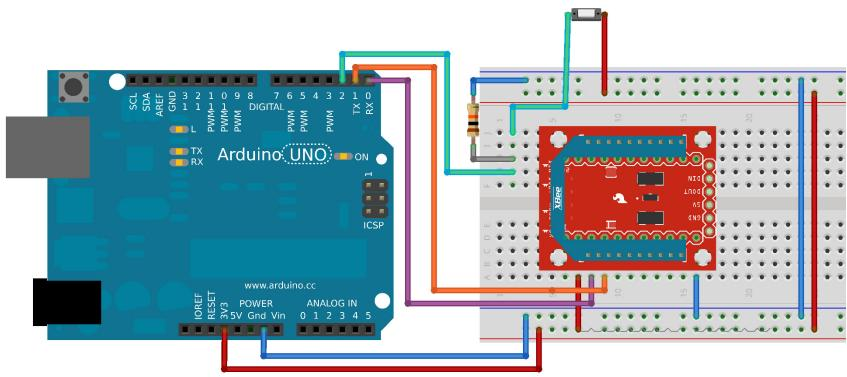
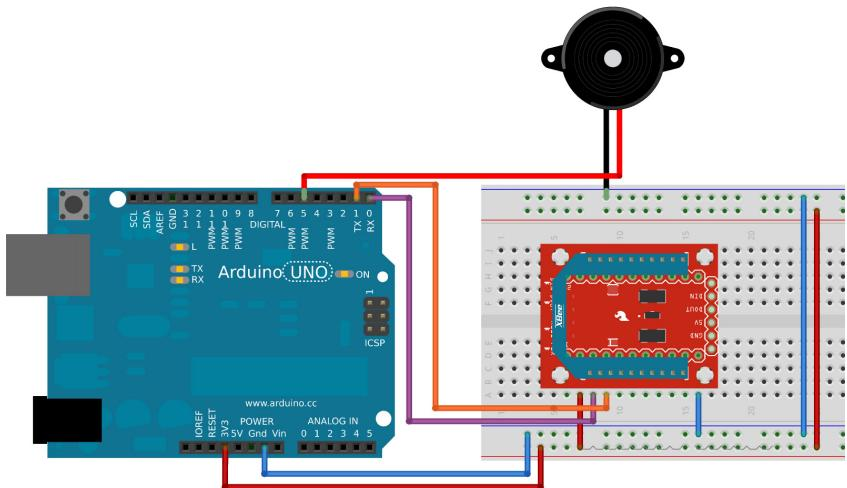

Figure 8.1: Wireless doorbell: switch layout
Figure 8.2: Wireless doorbell: buzzer layout
On the switch side, we will be prototyping a layout like the one shown in Figure 8.1. While the sound will be produced by a buzzer on the other radio, like in Figure 8.2.
Follow these guidelines to prepare the connections for the switch that will make the doorbell ring (or buzz in our case). If lost, you can always take a look at the final layout in Figure 8.1.
6. Grab another color cable to connect pin TX/DOUT of the XBee to digital pin 0 (RX) on the Arduino.
7. Then do the reverse way communication by connecting XBee's RX/DIN pin to the digital pin 1 (TX) on your Arduino.
8. With the coordinator XBee, attach the button to the digital input 2 of your Arduino, making sure to use the  $10K\Omega$  resistor as in Figure 8.1.
The other XBee (as a router) will work as the buzzer. For this, replicate the schematics shown in Figure 8.2.